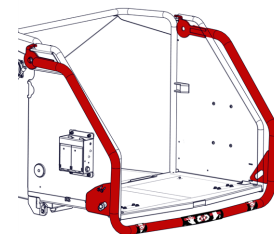

Figure 14 - Red Safety Bar
5. Press the Red Safety Bar (Figure 14).